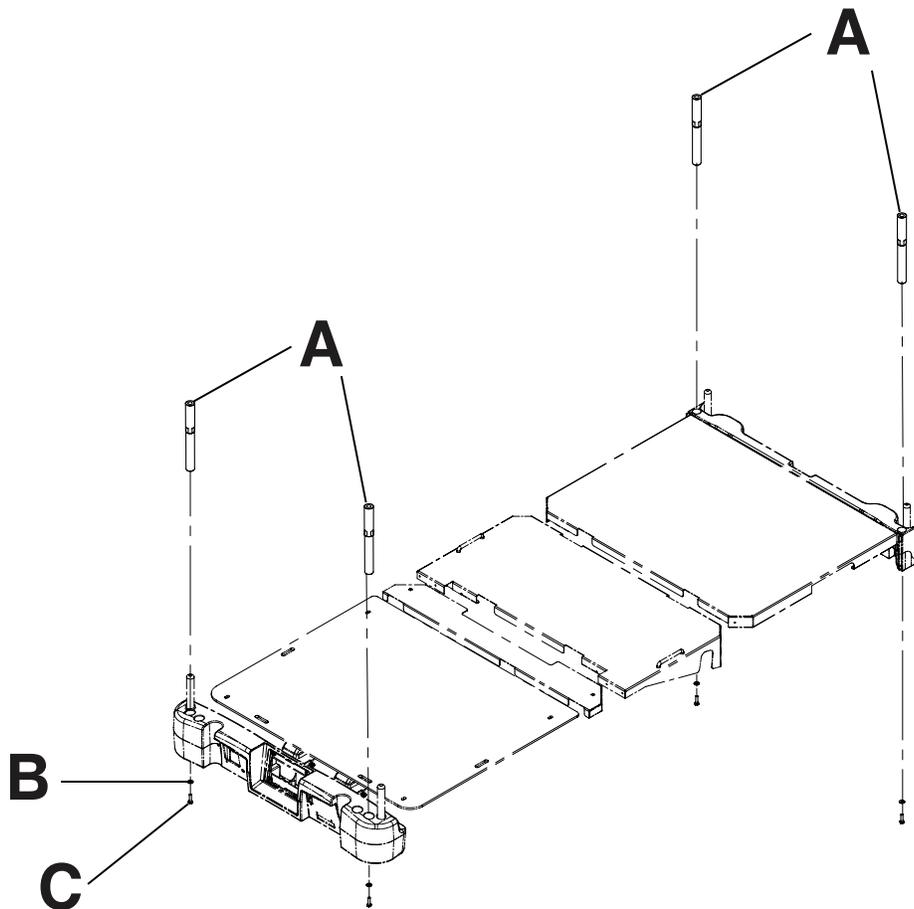

Figure 87: Traction sleeves
1. Install the traction sleeves into the sockets at the head end and foot end of the product (A) (Figure 87 on page 86).
2. Using a 7/16 in. combination wrench, install one washer (B) and one bolt (C) to secure the traction sleeve in the socket (Figure 87 on page 86).